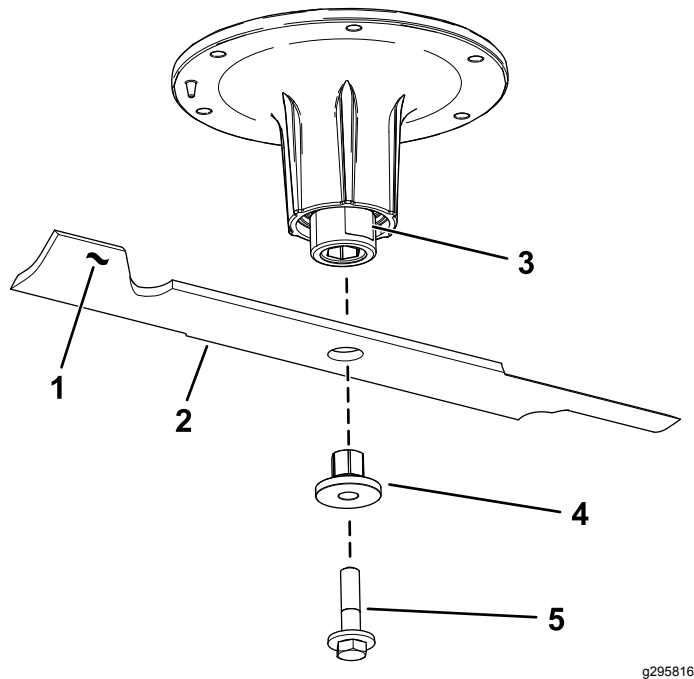

Figure 107
2. Remove the blade bolt, bushing, and blade from the spindle shaft (Figure 107).